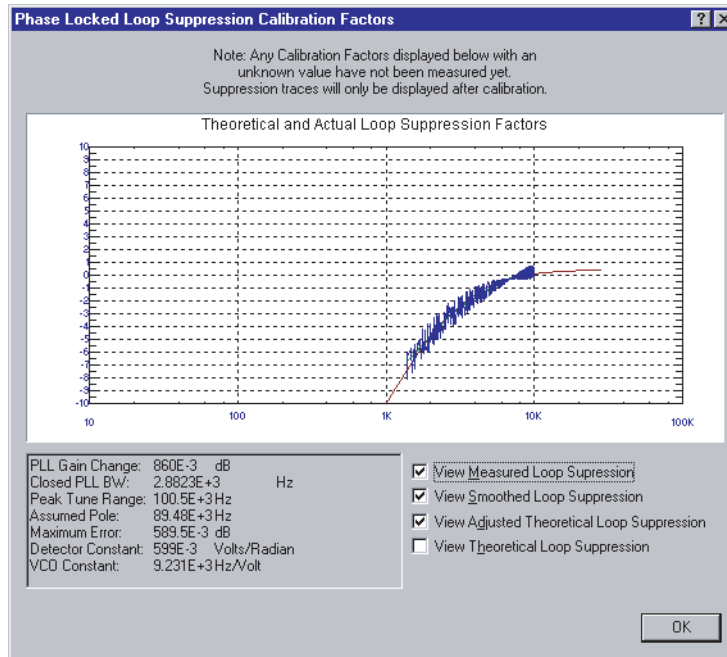

Figure 58 Suppression selections
- 2 When the PLL Suppression Curve dialog box appears, select **View Measured Loop Suppression**, **View Smoothed Loop Suppression**, and **View Adjusted Loop Suppression**. See Figure 58 on page 92.